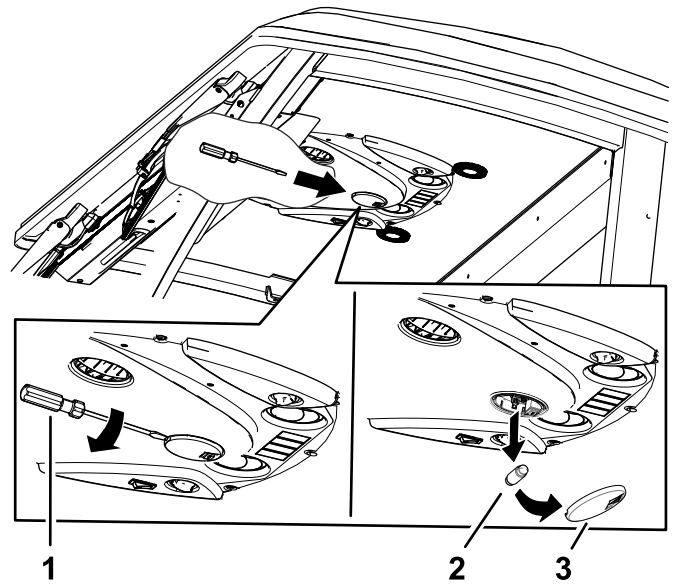

Figure 90
2. Remove the bulb from the light base (Figure 90).
1. Use a screwdriver to remove the light lens from the control panel. (Figure 90).